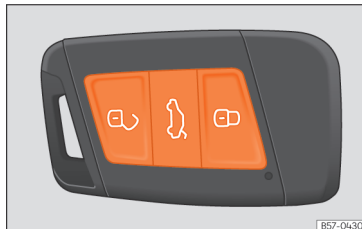

Fig. 53 Remote control key: keys.
- Lock: press the  **Fig. 53** button.